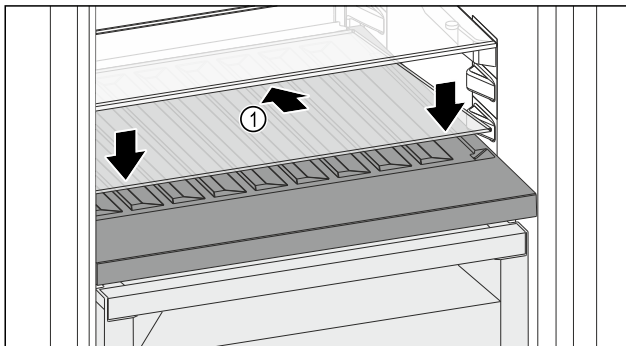

Fig. 148
- ▶ Place the glass shelf Fig. 148 (1) at an angle, sloping it downwards and backwards.
- ▶ Lower the glass shelf Fig. 148 (1) at the front.